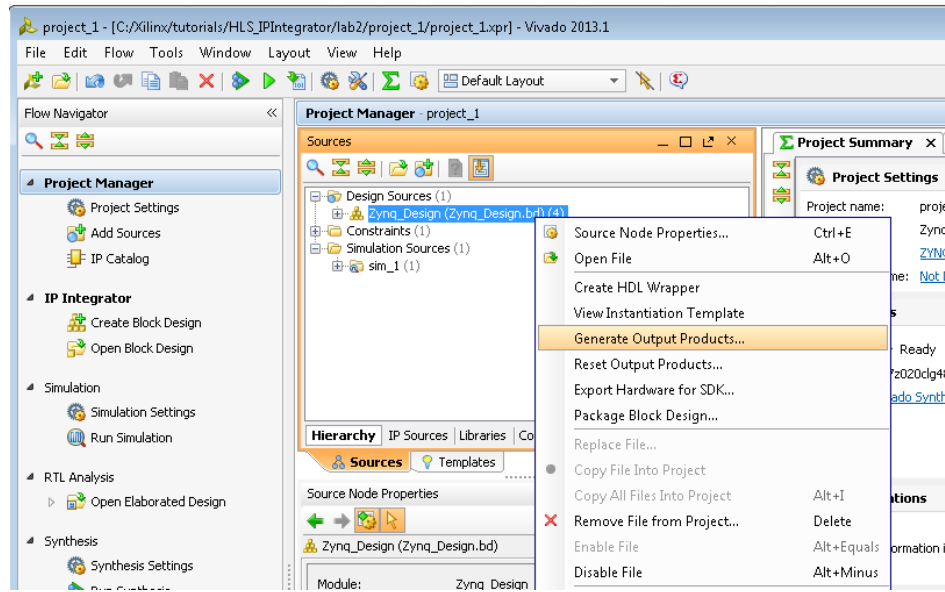

Figure 235: Wrapper Generation
2. In the Sources browser in the main workspace pane, a Block Diagram object named Zynq_Design is at the top of the Design Sources tree view (Figure 235). Right-click this object and select **Generate Output Products**.